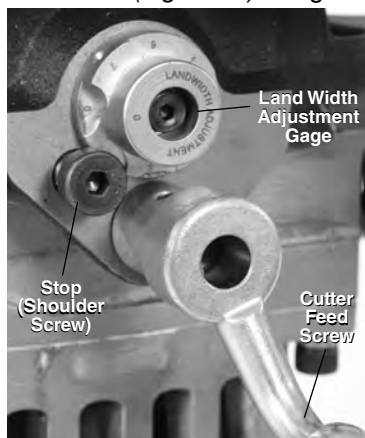

Figure 18 – Land Width Adjustment Gage Setting
6. Set the desired bevel land width (*Figure 18*) using the land width adjustment gage. If set to "0" there will be no land on the end of the pipe. Each step on the land width adjustment gage is approximately a $\frac{1}{32}$ " (0.8 mm) different from the adjacent step. (1 ~ 0.03" (0.8 mm) land width, 2 ~ 0.06" (1.6 mm), etc.) Move the needed step of the gage so it aligns under the head of the stop.
8. Using a smooth continuous clockwise rotation of the cutter feed screw (*Figure 18*); engage the cutter head into the work piece until the stop contacts the land width adjustment gage. Do not use cutting oil or coolant.